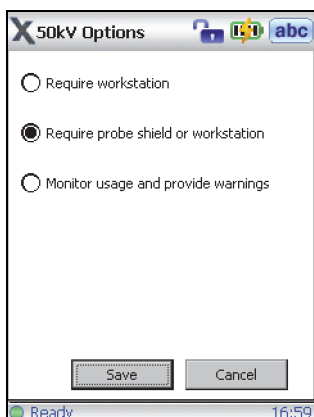

Figure E-14 The 50 kV Options screen
4. In the **50 kV Options** screen, select the desired option (see Figure E-14 on page 160).